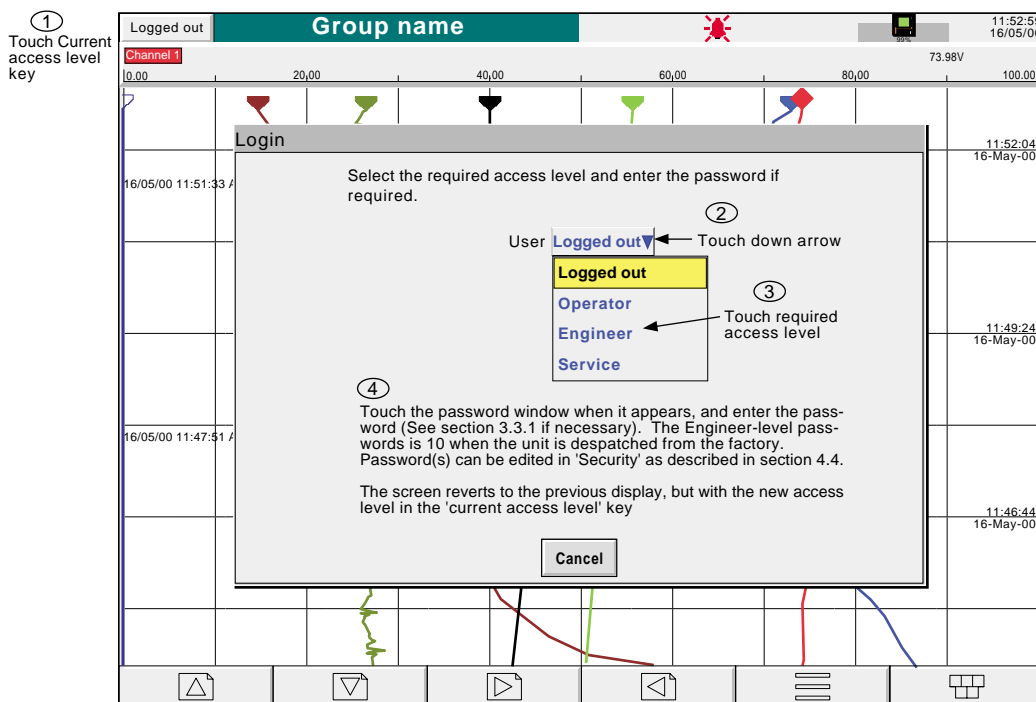

Figure 3.3.1a Access to configuration
- 1 As shown in figure 3.3.1a, once the recorder has initialised, touch the current access level key